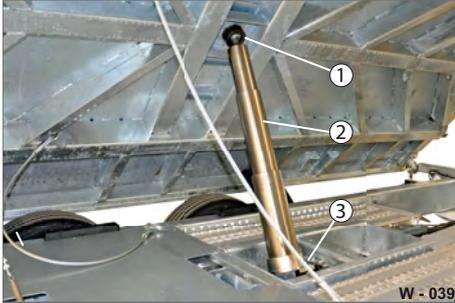

Fig. 39 Checking/maintenance of telescope cylinder
- ▶ Check the cylinder (Fig. 39/2) for leaks (oil loss) and tight fit.